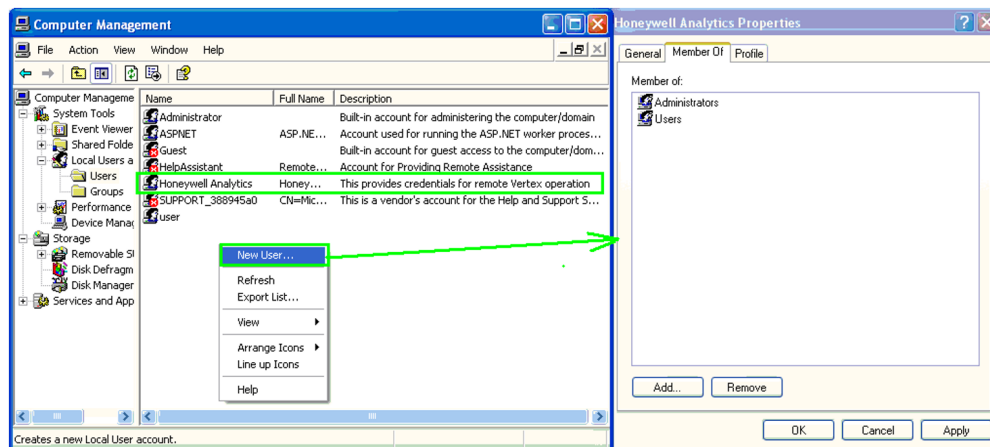

Figure 8-21. Computer Management
3. Add a new account as shown in Figure 8-21. Also add **Honeywell** to the **Administrators** group.